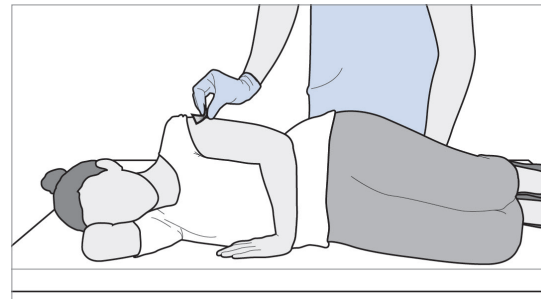

Figure 47 Cleaning the Injection Site
4. Swab the injection site with alcohol and allow to dry for at least 30 seconds. (see Figure 47).